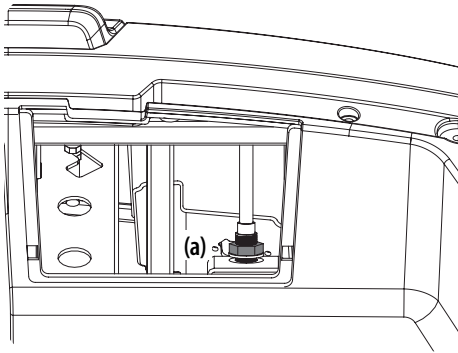

Figure 5-18
2. Locate the shift lever adjustment nuts (a). See Figure 5-18.
3. Adjust the nuts (a) up or down until the shift lever is working properly. See Figure 5-18.